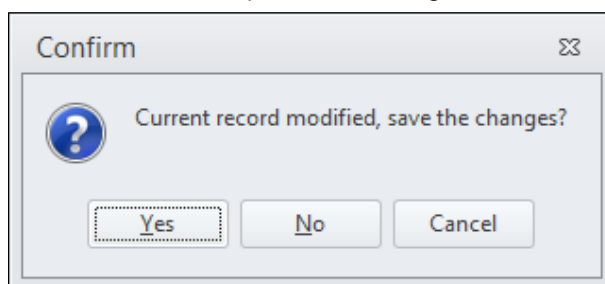

Figure 73 Country tax modification
- 4) Close the Tax by Country table by clicking on the X icon in the top right corner and click "Yes" to the question, see Figure 73.